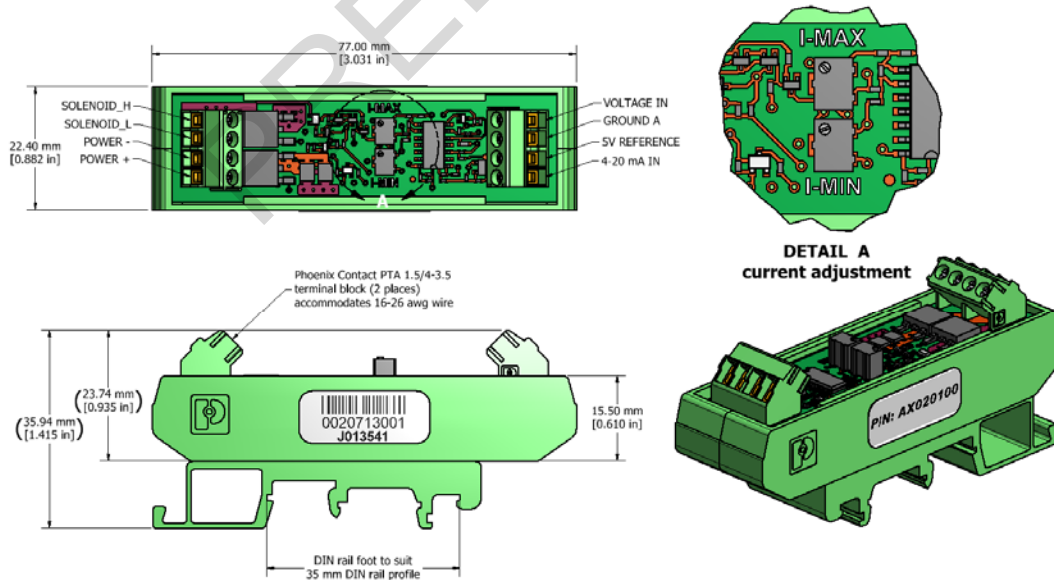

Figure 1.0 Dimensional Drawing
Electrical connection	2 4-pin Terminal Blocks Phoenix Contact P/N: PTA 1.5/4-3.5 Accepts 16-26 AWG wire. For pinout, see Figure 1.0.
Packaging and Dimensions	PA66 Nylon, Phoenix Contact P/N: UMK-SE 11, 25-1-2970442 (housing) and UMK-FE VE 500-29063654 (DIN rail foot) Mounts on DIN rail NS 32 or NS 35/7.5 For dimensions, see Figure 1.0.
- Connect the power supply, command potentiometer or input signal and valve solenoid as shown on Figure 1.0 and in Section 2.4. Put isolation sleeves on any unused wires for the potentiometer.
Connect the cable conductors to the power supply, input signal or potentiometer and load, as follows and per Figure 1.0.
The location of the trim pots for the set up adjustments are shown in Figure 1.0.